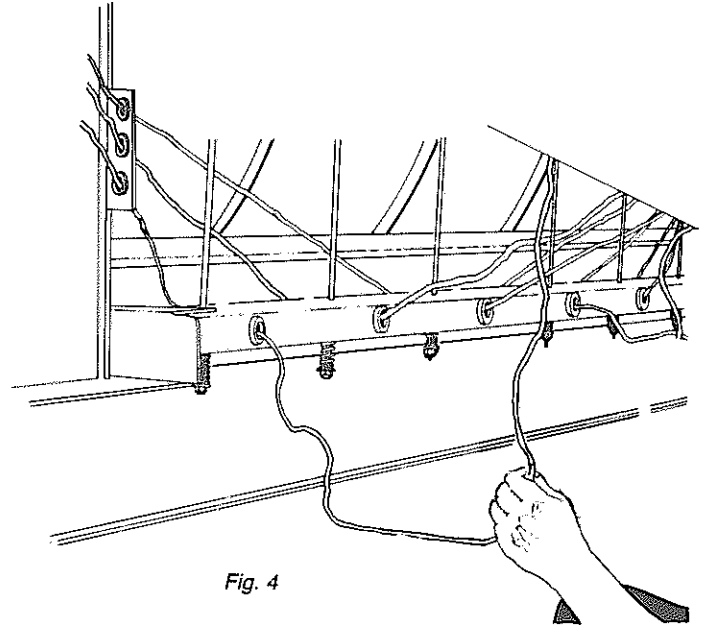

Fig. 4
4. Route twine through the guides located near the twine tensioners, (E); proceed, pulling the twine through the twine tensioners, see **Fig. 4**. (**NOTE:** A button hook is useful to pull twine through the twine tensioners).
5. Thread the twine through the needle rollers, (F), located 22 inches from the tip of the needles; then through the needle eyes, (G), located at the tip of the needles.